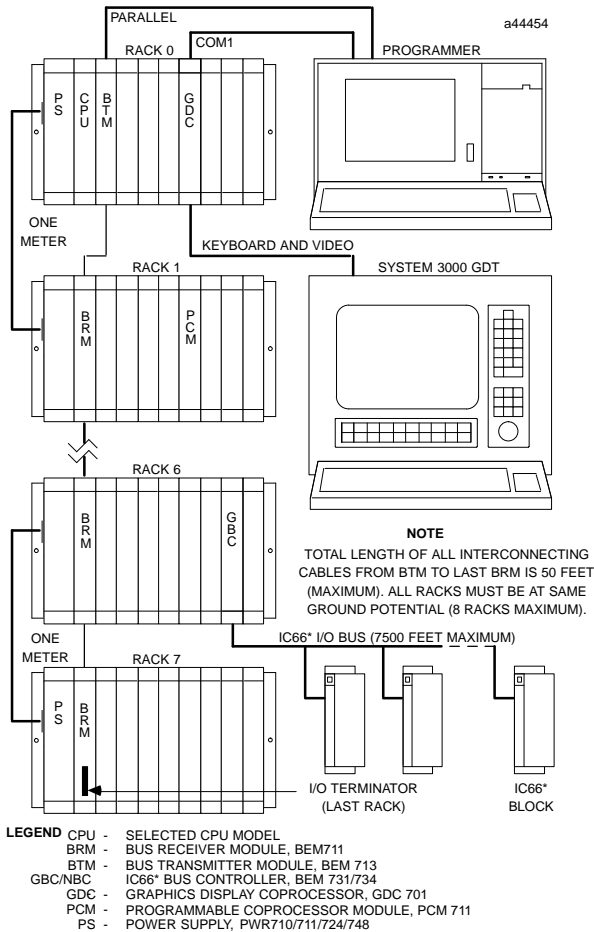

Figure 1. Typical PLC System Configuration
- Install in the rack (See figure 1).